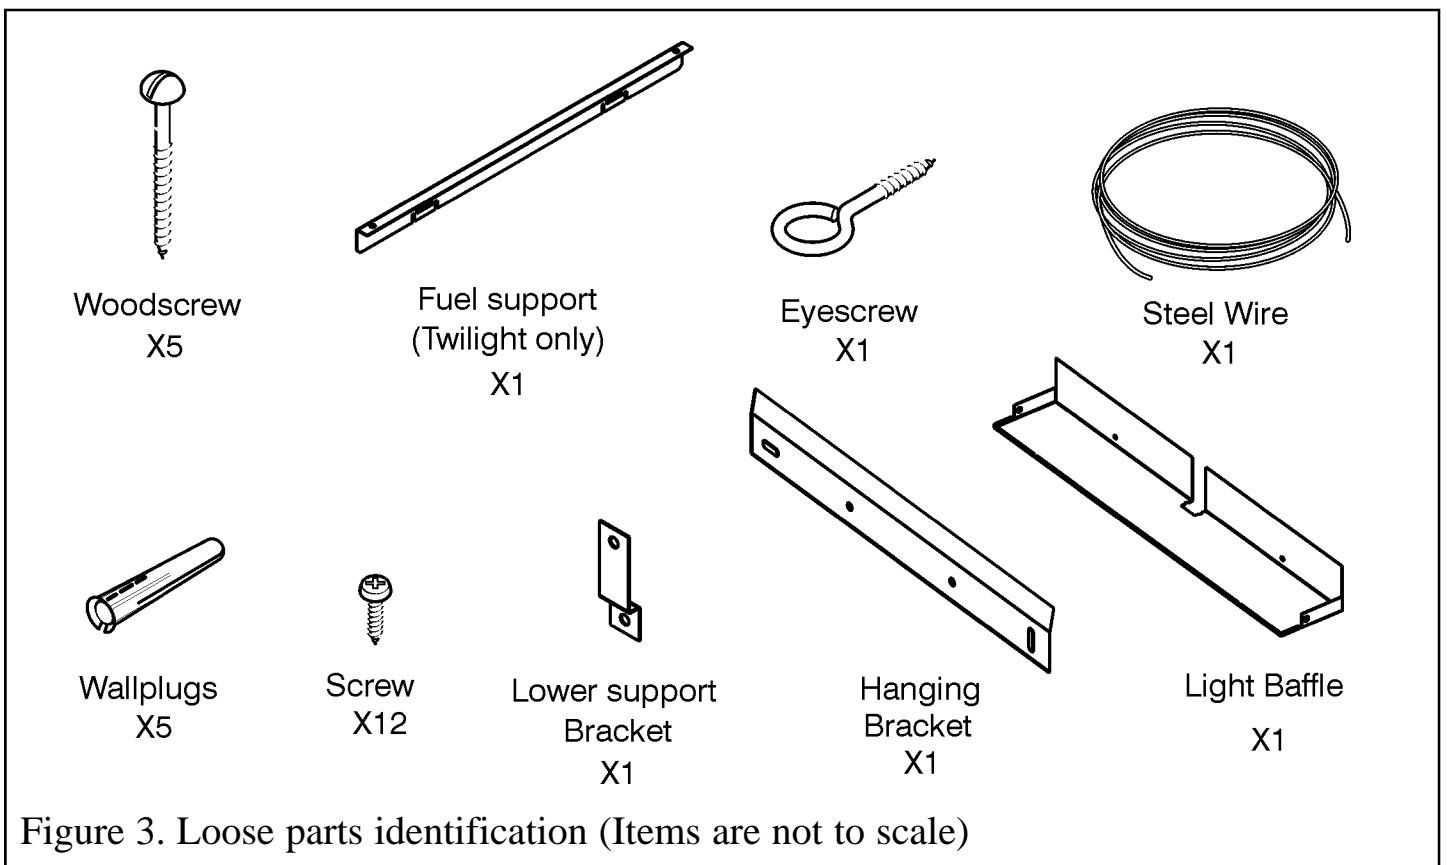

Figure 3. Loose parts identification (Items are not to scale)
All of the fixings and loose parts supplied with the heater have been identified as in figure 3.
Additional fixings may be required if fitting the heater to a plasterboard wall that has a wooden frame behind it. In such cases we recommend the use of heavy duty cavity fixings. If fitting the heater in an elevated position (i.e. above hearth or finished floor height) then the lower support bracket must be fitted (See figure 3).
6. Screw and secure the heater with two woodscrews screws (See figure 3).
1. The fixing kit supplied with the heater includes a steel wire, wall plug and eyescrew (See figure 3). These can be used to secure the heater to the back of a fireplace opening.